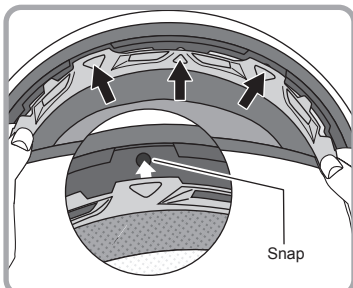

Fig. 2
- ② Remove the interlining at the centre as shown in Fig.2.
- ③ Unfasten the 3 snaps at the rear to remove the inner pad as shown in Fig.2.
- ② Insert the 3 snaps on the front as shown in Fig. 2.